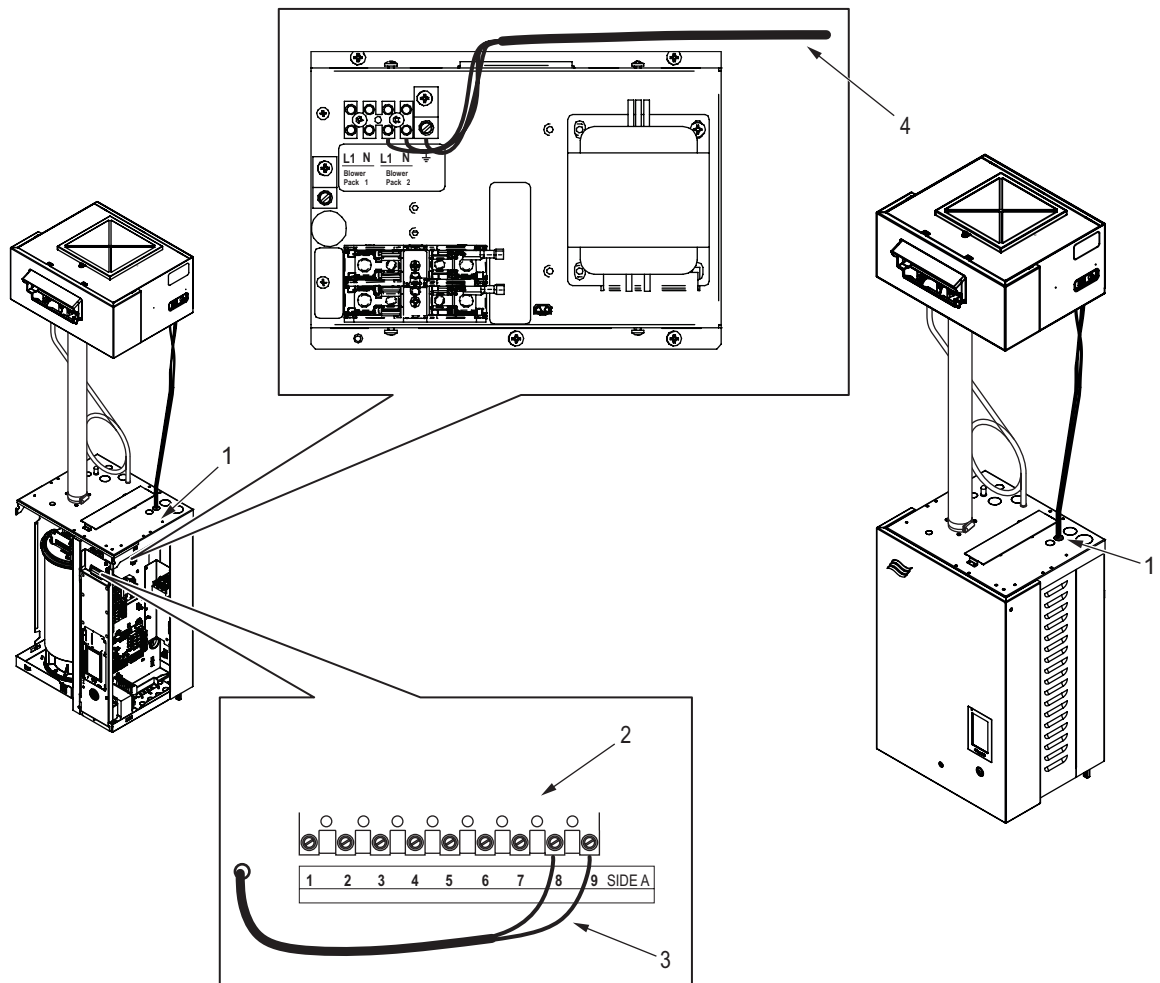

Figure 11: Humidifier Electrical Connections
- b. Punch the knockout hole in the top of the humidifier that is located directly below the blower pack power connector. Refer to Figure 11.
- c. Install a grommet (supplied) in the knockout hole, and route the security loop cable (and the power cable if using the optional power kit described above) through the grommet, as shown in Figure 11.
- e. Run the security loop cable (and power cable - EL units only) along the cable chase and connect the leads to the terminal strips inside the humidifier unit, as shown in Figure 11. Ensure that the line wire in the **power cable is connected to "L1"**, the **neutral wire to "N"** and the **ground wire to "GND"** in the terminal strip. Use strain relief for power wires and follow all local codes for installation.